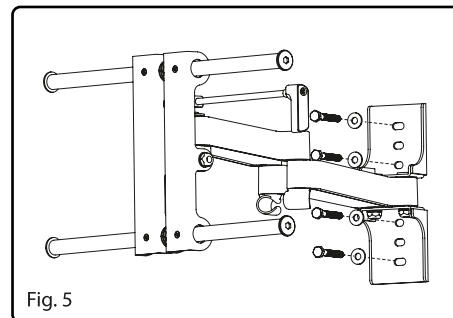

Fig. 5
5. Place the mount against the wall over the drilled holes, making sure the arrow on the mount points up. Attach the mount to the wall using the lag bolts (A) and lag bolt washers (B) provided. (see Fig. 5) **Do not over-tighten these bolts and do not release the mount until all bolts are in place.** Ensure that the mount remains level after all bolts are secured.